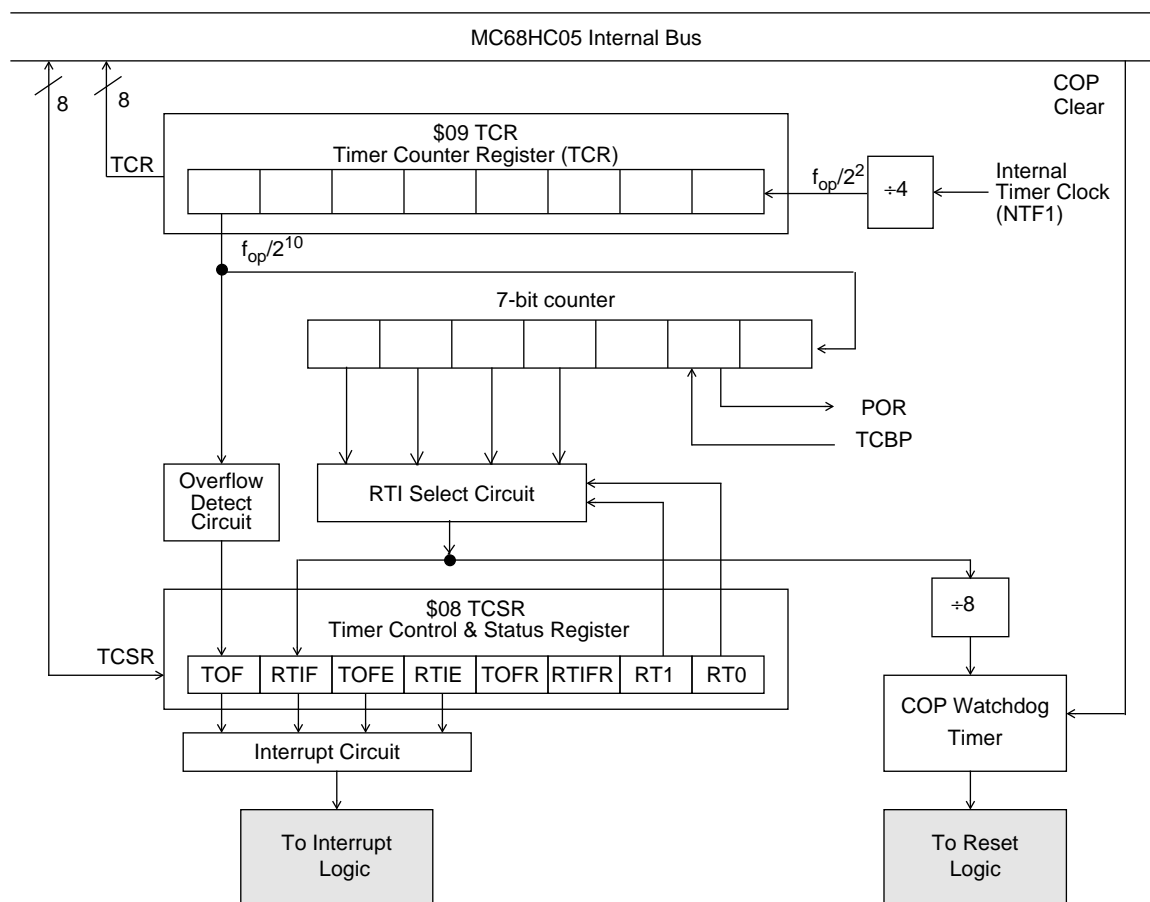

Figure 8-1. Multi-Function Timer Block Diagram
As shown in **Figure 8-1**, the Timer is driven by the timer clock, NTF1, divided by four (4). NTF1 has the same phase and frequency as the processor bus clock, PH2, but is not stopped by the WAIT or HALT Modes. This signal drives an 8-bit ripple counter. The value of this 8-bit ripple counter can be read by the CPU at any time by accessing the Timer Counter Register (TCR) at address \$09. A timer overflow function is implemented on the last stage of this counter, giving a possible